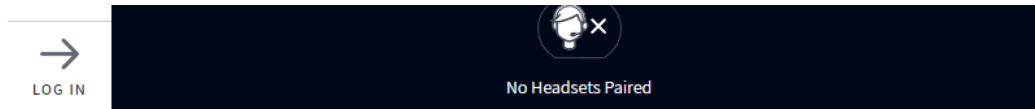
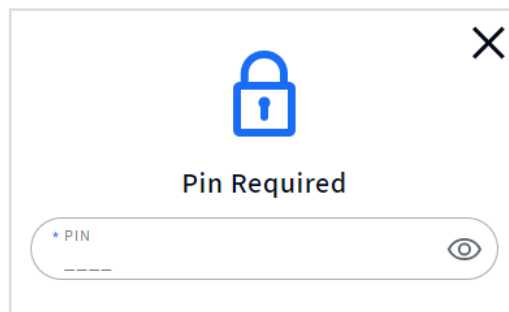

Fig. 1.25
Fig. 1.26
1. Tap LOG IN on the sidebar menu (Fig. 1.25). This opens a dialog box and prompts you for a PIN (Fig. 1.26).